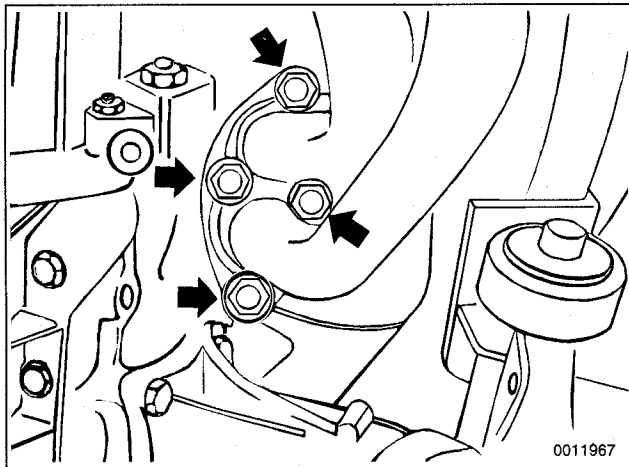

Fig. 1. Front exhaust pipe to exhaust manifold mounting nuts (arrows).
2. Working underneath vehicle, remove front exhaust pipe from exhaust manifold. See Fig. 1.